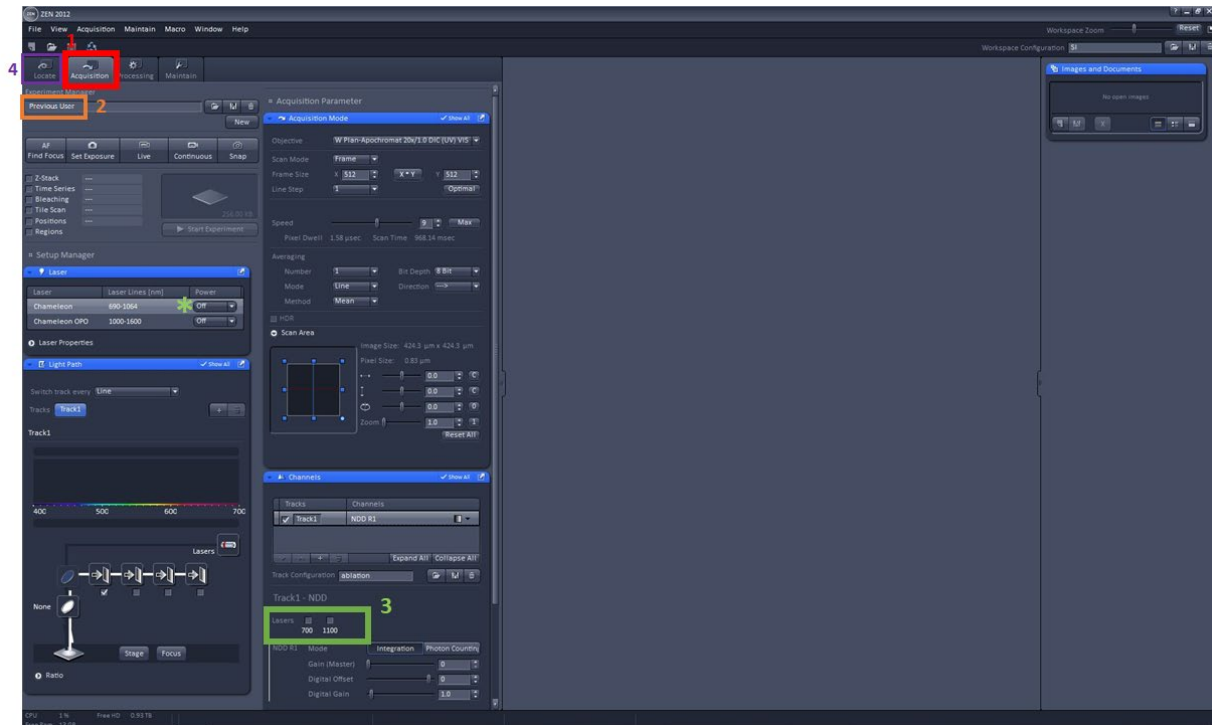

Figure 3: Zen Acquisition tab
- a. First click the “acquisition” tab in top left box (1). Figure 3 is what you should see in the Acquisition tab upon initial start-up. The colored boxes and labels will be referenced in the following section for clarity.
- iii. The Chameleon digital screen (Fig 1) confirms that the wavelength is set at 700 nm. Additionally, the laser is “off” in Zen (Figure 3 **box 3**).
- iv. Click the 700 box in figure 3 above, **box 3** above to output the chameleon laser. You will receive a message asking if you want to turn the laser on. Click ‘Yes’. The Chameleon box (by the green star) should turn to “On” once this has occurred. The bottom left half of the Acquisition tab should now look like Figure 4 below (**box 1**).
- f. Once Status=OK on tablet, in Zen click the OPO box (right check box within green area in Figure 3) and adjust the wavelength <40 nm at a time in the same manner as is done for the chameleon laser.